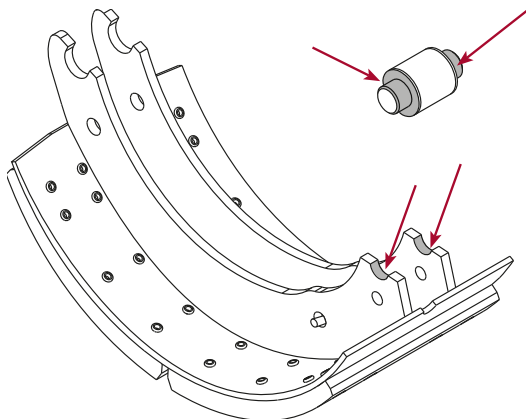

Figure 61: Apply Lubricant to Roller Ends & Roller Slot
1. Smear a small amount of suitable anti-seize compound grease to the roller ends and the corresponding roller slot in the shoe. Refer Figure 61.